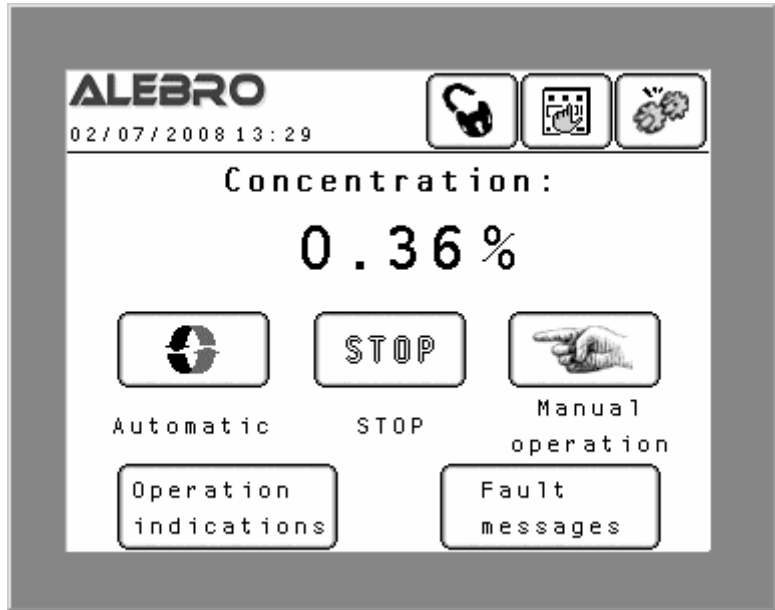

Fig. 17
- Adjust the operation concentration on the main screen (fig. 17)